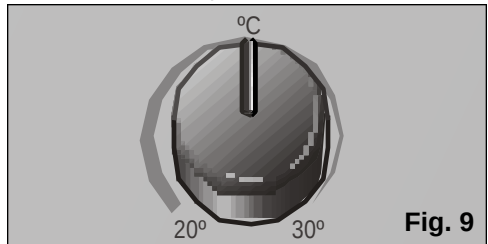

Fig. 9
- ☐ Set the thermostat to the desired temperature, **Fig. 9**. If the appliance turns itself off automatically because the thermostat trips, it is necessary to wait for ambient temperature to rise 2-3°C before it comes back on again.